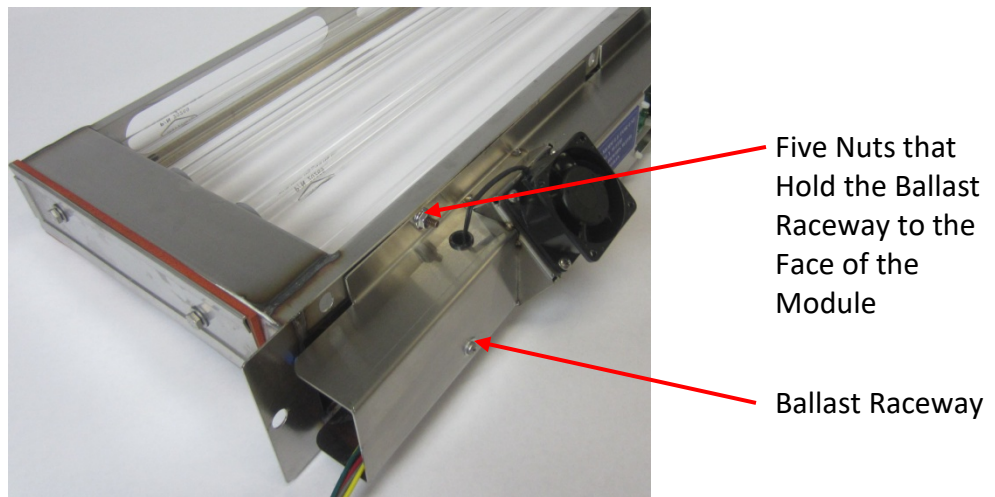

Figure 6-22-1
7. Next the Ballast Raceway must be removed. Using a wrench, remove the five nuts that hold the raceway to the face of the Module (Refer to Figure 6-22-1). Gently pull the Ballast Raceway off the Module as shown in Figure 6-22-2.